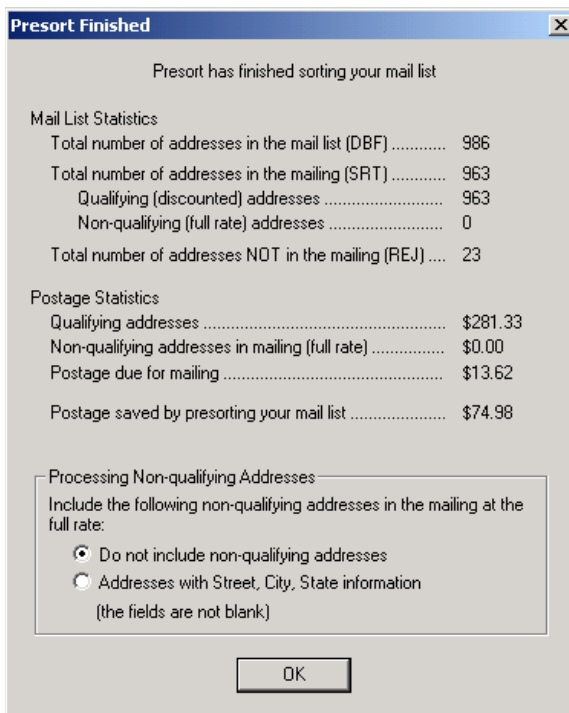

Figure 3-11
3. When presorting is complete, the Presort Finished dialog box is displayed (Figure 3-11) if you selected the Display Presort Results Dialog option in Advanced User Setup prior to importing (See Chapter 2). If you did not select this option, go to the next step.